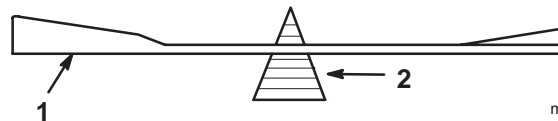

Figure 30
2. Check the balance of the blade by putting it on a blade balancer (Fig. 30). If the blade stays in a horizontal position, the blade is balanced and can be used. If the blade is not balanced, file some metal off of the end of the sail area only (Fig. 28). Repeat this procedure until the blade is balanced.